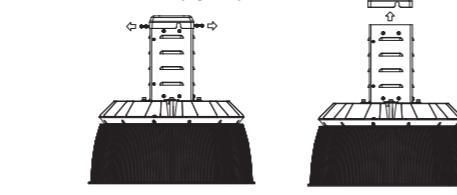

Figure 3
- Remove the rear cover from fixture as picture (Figure 3). Use a screw driver to open the knockout.